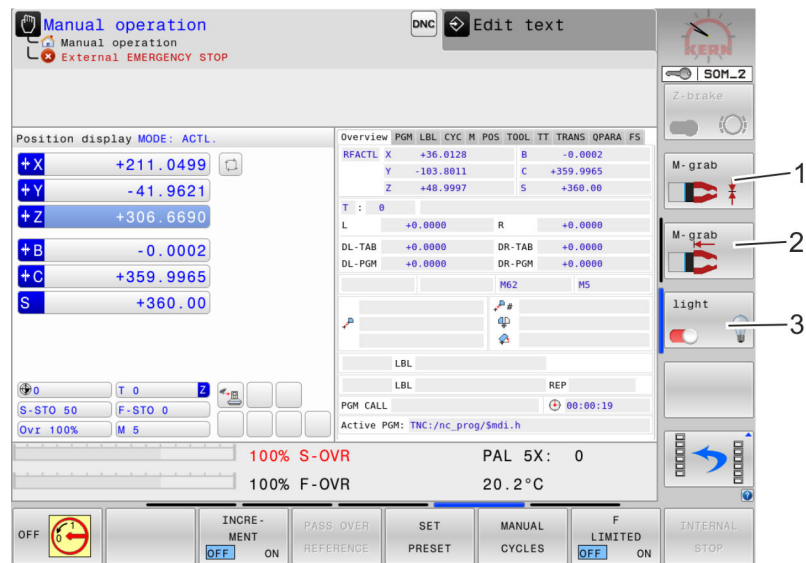

Fig. 93: Service menu
6. ➤ Press the *[open/close magazine gripper]* (Fig. 93/1) softkey.
- Press the *[magazine gripper forward/backward]* (Fig. 93/1) softkey.